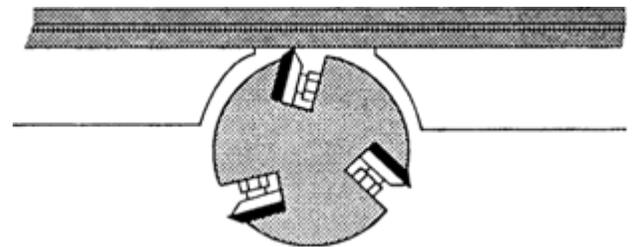

Fig. 12
2. Place a metal straightedge across both tables as shown in (Fig. 12), and make sure both tables are set to the exact height of the high point of the knives.